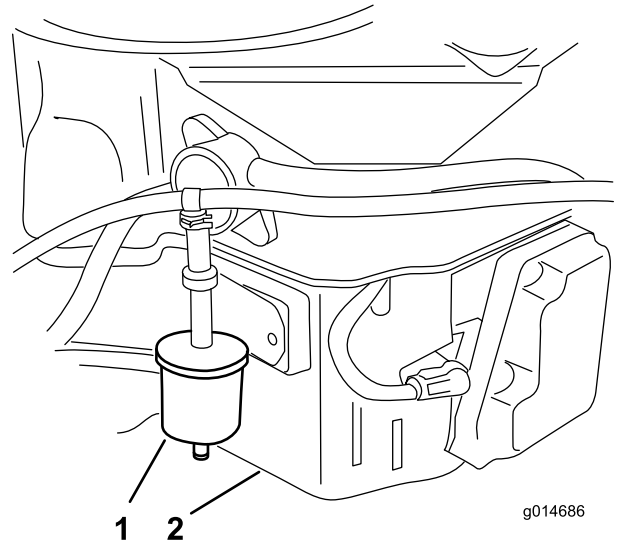

Figure 34
3. Remove the existing fuel vent filter (Figure 34).